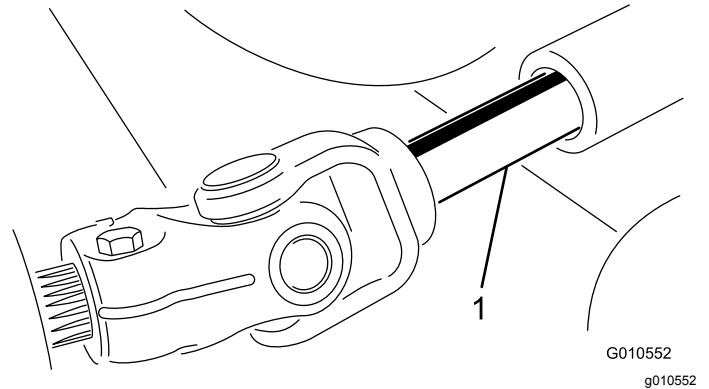

Figure 25
5. Roll the cutting unit away from the traction unit, separating the male and female sections of the PTO shaft (Figure 25).